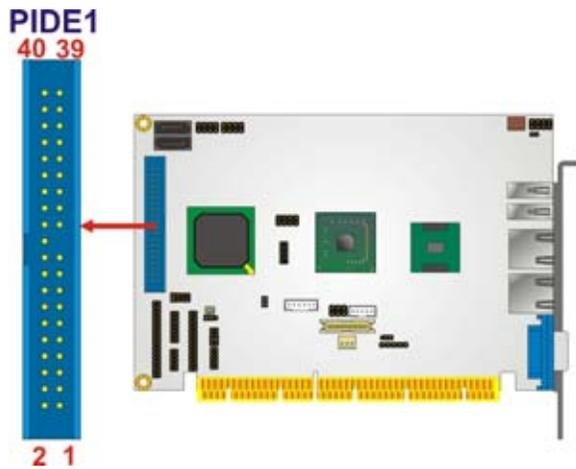

Figure 3-13: IDE Device Connector Locations
- CN Location:** See Figure 3-13